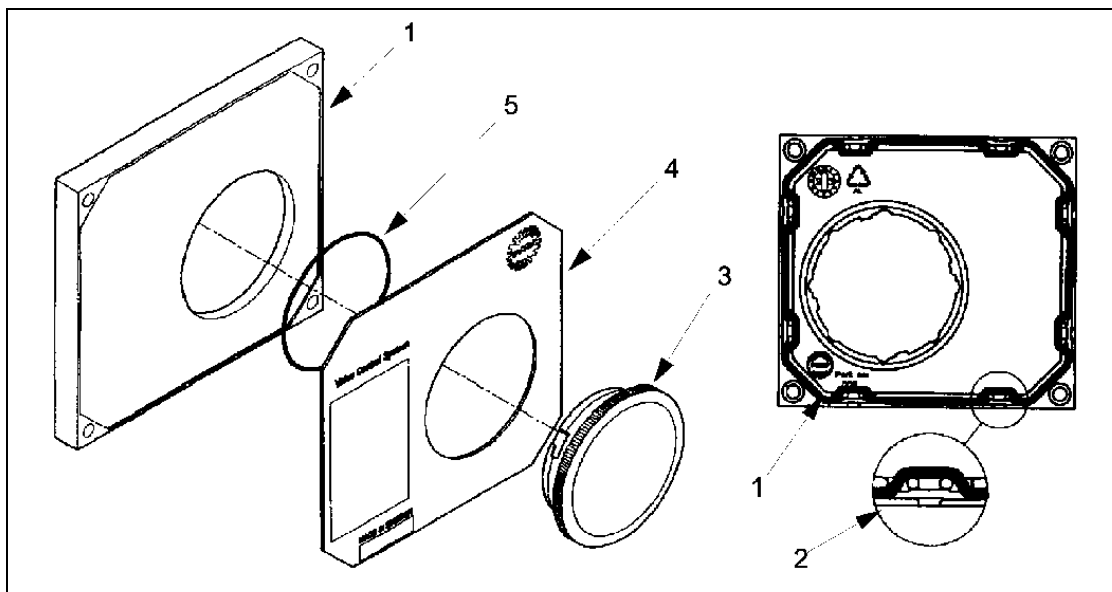

Figure 3 – Front Cover and Indicator Cover
The O-ring can be looped over notches (2) in the front cover to allow for drainage. There are eight locations on the front cover where the O-ring can be looped. See Figure 3.